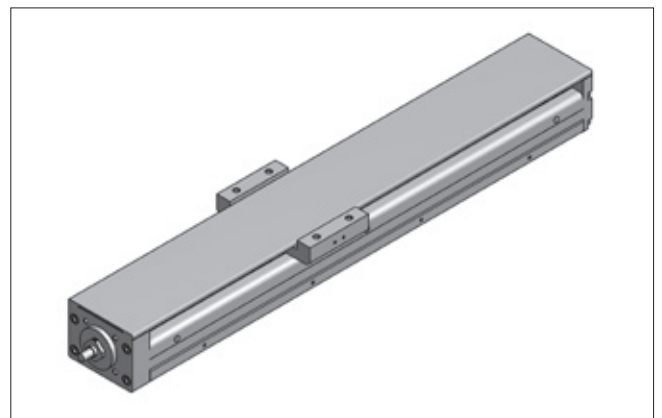

Figure 5.12 __ AXBG with cover plate
- Optimal protection of the inside placed guiding and drive elements by the optional use of cover plates (Figure 5.12)